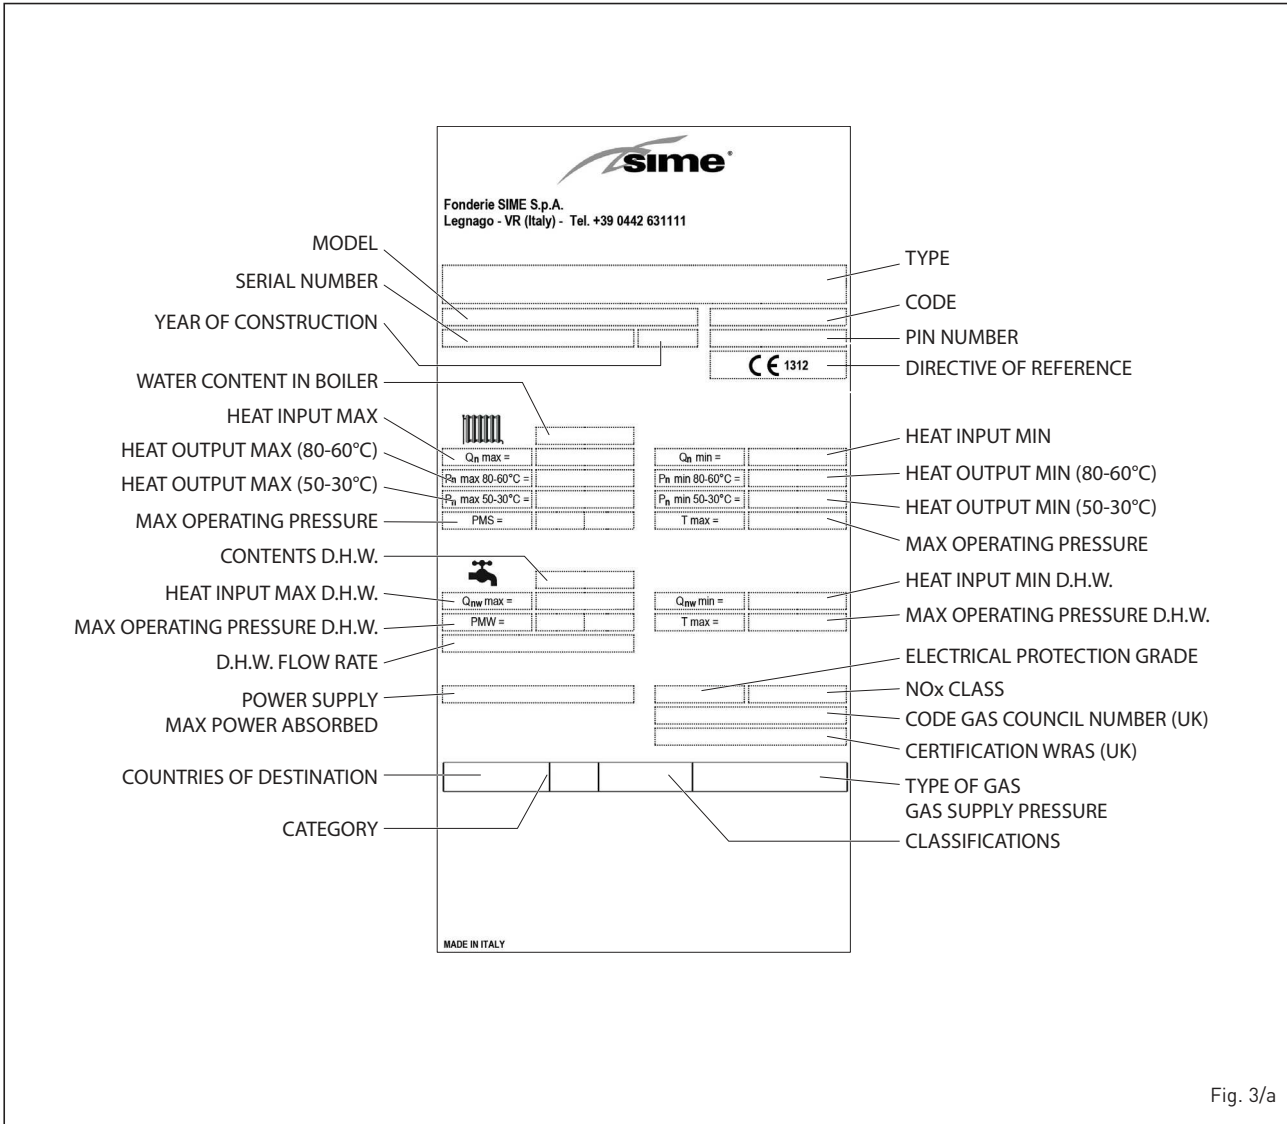

Fig. 3/a
1.5 MAIN COMPONENTS (fig. 3)
1.6 TECHNICAL DATA PLATE (fig. 3/a)